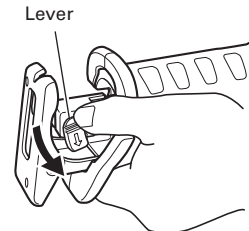

Fig. 2
- (2) Push the lever in the direction of the arrow mark shown in Fig. 2 marked on the lever.
- (2) After you have pushed the lever in the direction of the arrow mark shown in Fig. 2, turn the blade so it faces downward. The blade should fall out by itself. If the blade doesn't fall out, pull it out by hand.